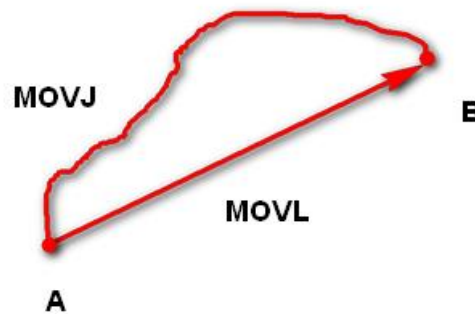

Figure 12.1 MOVL/MOVJ mode
- **MOVJ:** Joint movement. From point A to point B, each joint will run from initial angle to its target angle, regardless of the trajectory, as shown in Figure 12.1.
- **MOVL:** Rectilinear movement. The joints will perform a straight line trajectory from point A to point B, as shown in Figure 12.1.